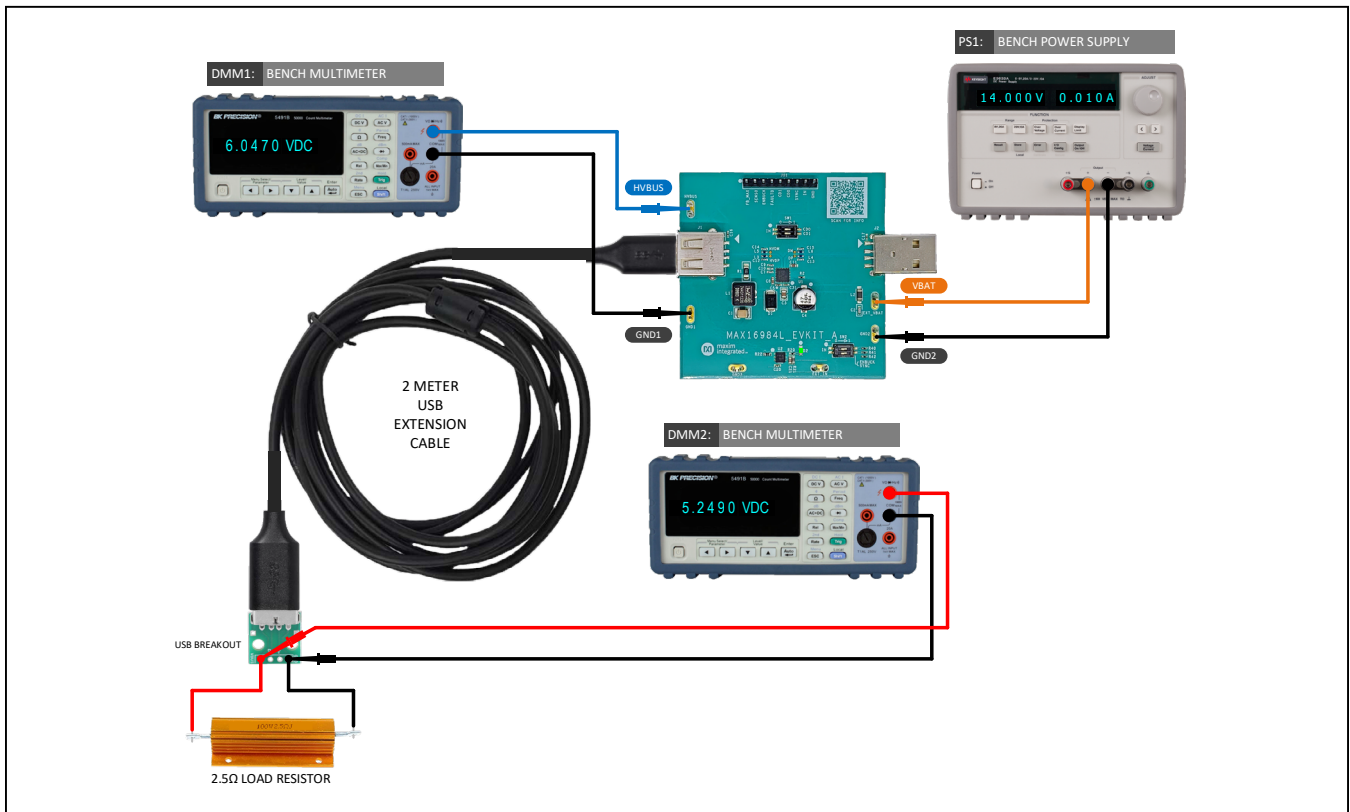

Figure 9. Setup for Evaluating Cable Compensation
- 2) Setup test equipment as shown in Figure 9 with PS1 DISABLED and the 2.5Ω load resistor unplugged.